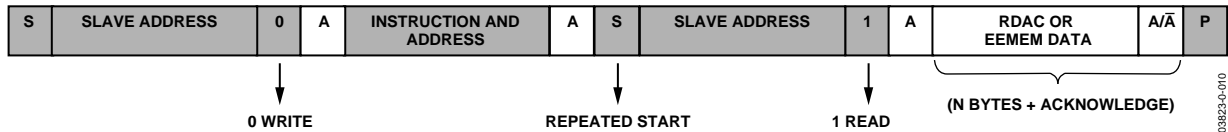

Figure 30. RDAC or EEMEM Random Read
Figure 30 illustrates a random RDAC or EEMEM read operation. This operation allows users to specify which RDAC or EEMEM register is read by issuing a dummy write command to change the RDAC address pointer and then proceeding with the RDAC read operation at the new address location.
3. In current read mode, the RDAC0 data byte immediately follows the acknowledgment of the slave address byte. After an acknowledgement, RDAC1 follows, then RDAC2, and so on. (There is a slight difference in write mode, where the last eight data bits representing RDAC3 data are followed by a no acknowledge bit.) Similarly, the transitions on the SDA line must occur during the low period of SCL and remain stable during the high period of SCL (see Figure 34). Another reading method, random read method, is shown in Figure 30.